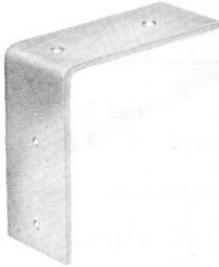

Fig. 6 - KS-16422, List 4 Bracket
- For parallel or end mounting on walls, one KS-16422, List 4 bracket will be required (see Fig. 6).